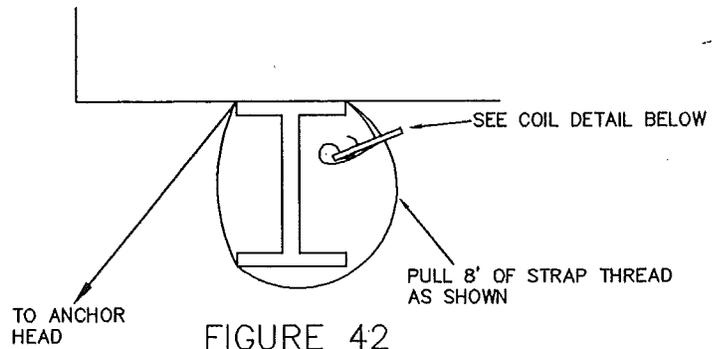

FIGURE 42
4. EACH OF THE STRAPS AND CONNECTIONS TO THE I-BEAM MUST HAVE AN ULTIMATE STRENGTH OF 4725 LBS. SEE FIG. 42, 43 & 44.
4. EACH OF THE STRAPS AND CONNECTIONS TO THE I-BEAM MUST HAVE AN ULTIMATE STRENGTH OF 4725 LBS. SEE FIG. 42, 43 & 44